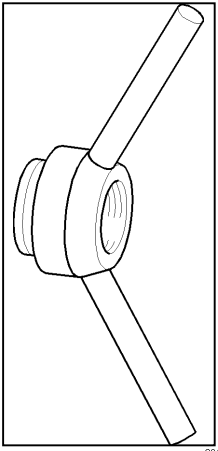

Fig.5
**#14021053 Wing nut (Fig.5).**